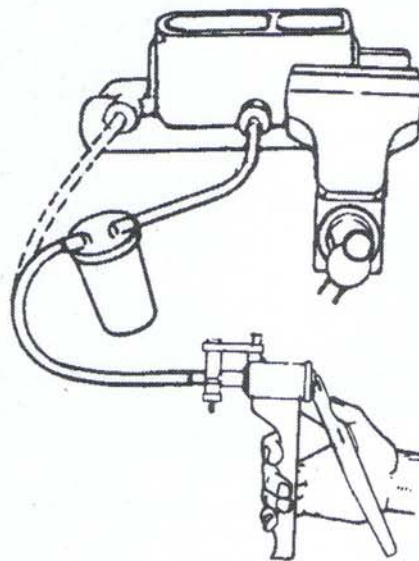

FIGURE 16: Bench Bleeding
- 3) Remove a plug from the master cylinder and attach the proper adapter to this master cylinder outlet port. Connect the pump tube to the reservoir jar and the jar tube to the adapter (FIGURE 16).